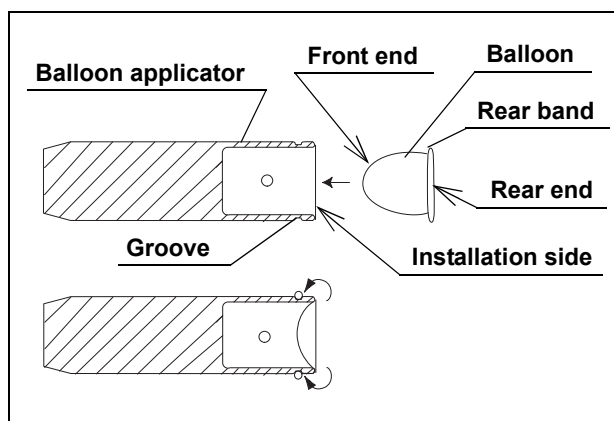

Figure 3.24
2. Insert the front end of the balloon into the installation side of the balloon applicator. Slide the rear band of the balloon into the groove of the balloon applicator (see Figure 3.24).